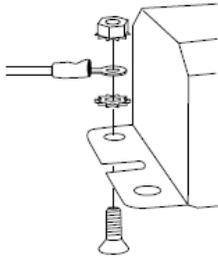

Figure 9. Grounding Kit Instructions
- a. Bodine emergency drivers with metal enclosures are provided with a separate grounding kit (PRT00088) that should be used during installation to ensure the driver enclosure is properly grounded. An example of the kit instructions is shown in Figure 9.